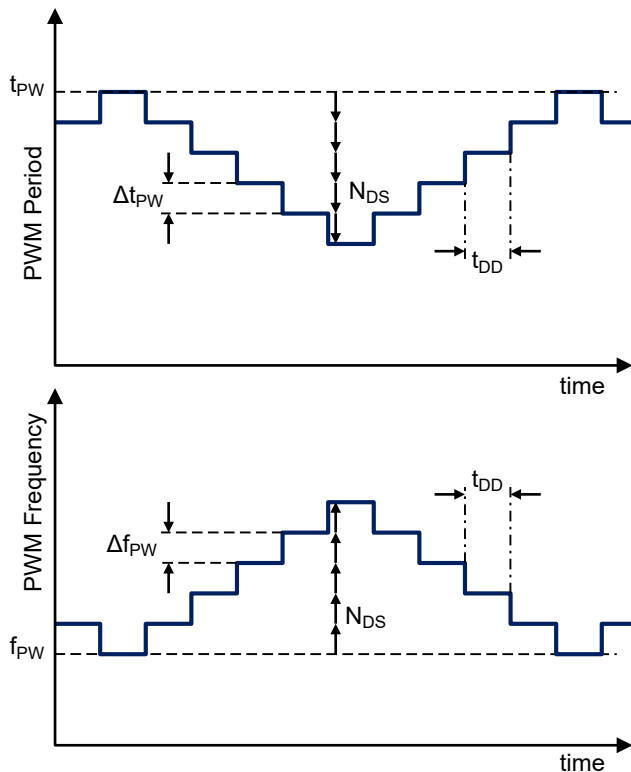

Figure 16: PWM Frequency Dither
The A4964 includes an optional PWM frequency dither scheme that can be used to reduce the peak radiated and conducted electromagnetic (EM) emissions. This is accomplished by stepping the PWM period in a triangular pattern in order to spread the EM energy created by the PWM switching. There are three programmable variables that can be used to adjust the frequency spreading for different applications: dither step period, Δt_{PW} , dwell time, t_{DD} , and the number of steps in the pattern, N_{DS} . These are identified in Figure 16.
Figure 16 shows the dithered period on top and the corresponding frequency below. The PWM frequency at any time is defined by the PWM period. The base PWM period, t_{PW} , is indicated as is